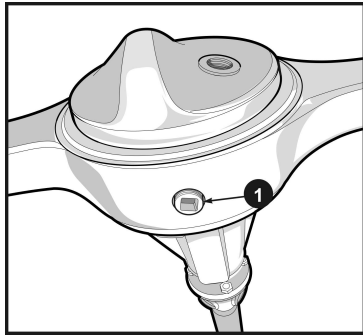

Fig. 1
1.2 Place a fluid drain pan under the axle housing. Remove the drain plug (1) and allow the gear oil to completely drain into the pan. (Fig. 1)